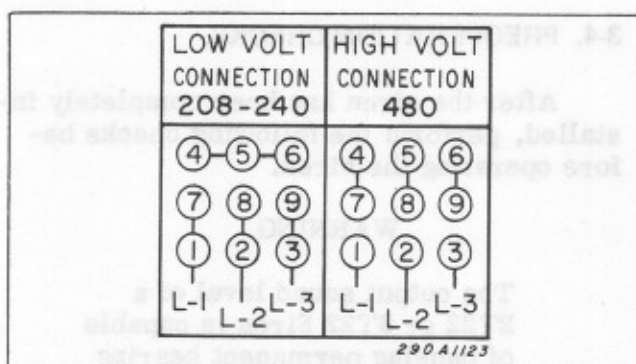

Figure 3-6. Three Phase Motor Power Connections.
6. (Three phase -A-models only) The three phase motor can be operated from either a 208-240 Vac or a 480 Vac source when the appropriate arrangement of electrical connections is used. The siren is shipped with the motor wired to operate at the voltage specified by the customer. This voltage is stamped on the nameplate of the motor. However, if it is ever necessary to change the motor operating voltage, connect the wires in the appropriate arrangement, as shown in figure 3-6. NOTE: If it is ever necessary to change the siren operating voltage, the controls must also be modified or exchanged.